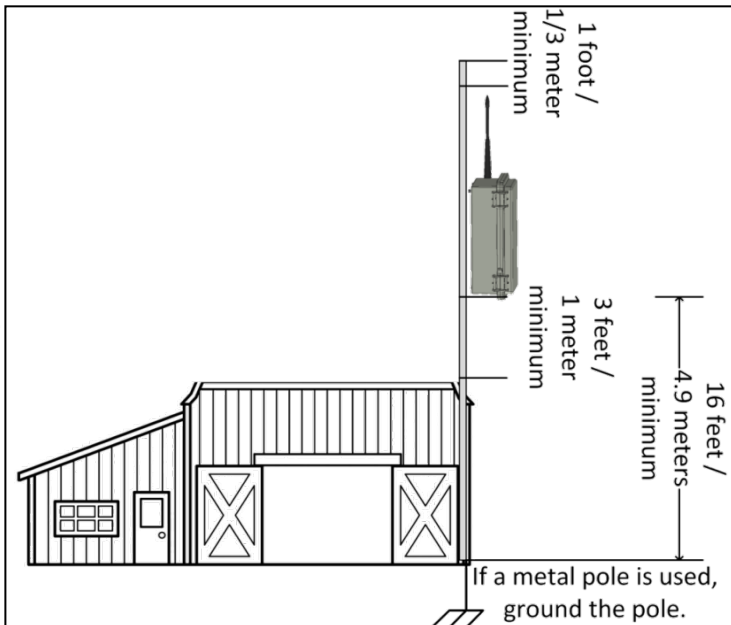

Figure 19: Lightning rod setup
- Antenna pole (refer to Figure 19):